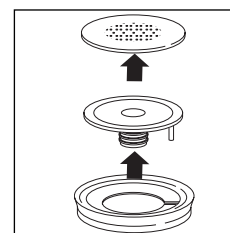

fig. 30
- Remove the gasket and the metal filter (fig. 30).